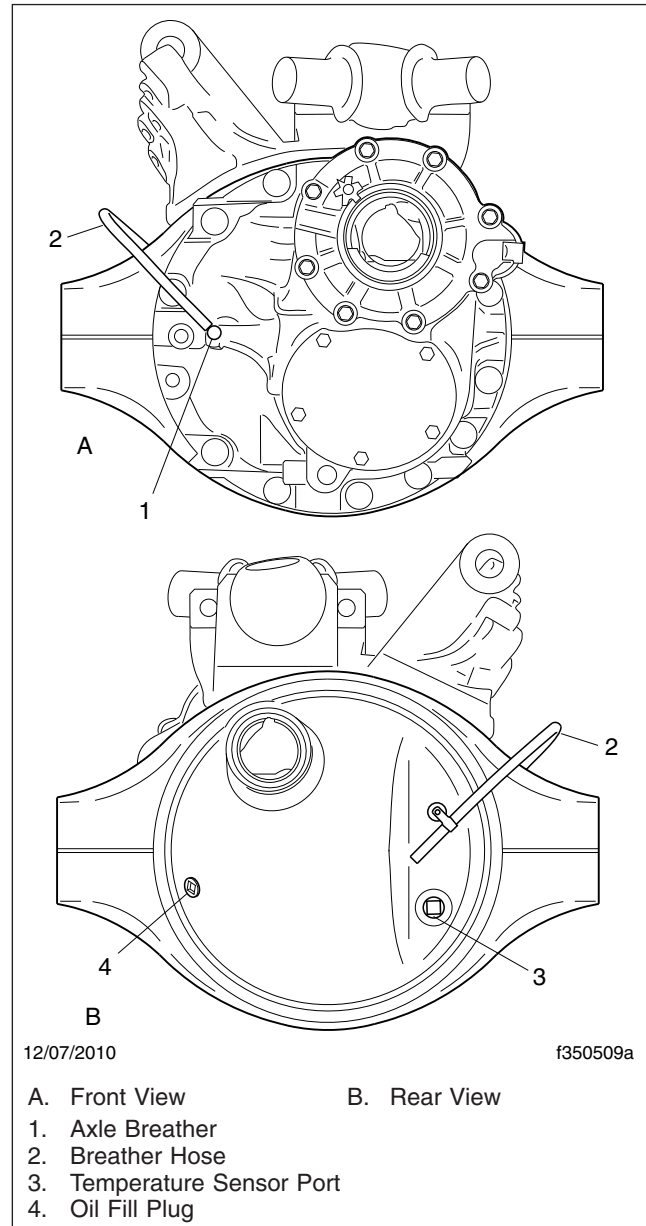

Fig. 3, Detroit Tandem Axle (forward axle shown)
2. Clean the fill plug and the area around it. In the axle housing rear cover, remove the plug from the oil fill hole. See Fig. 3.